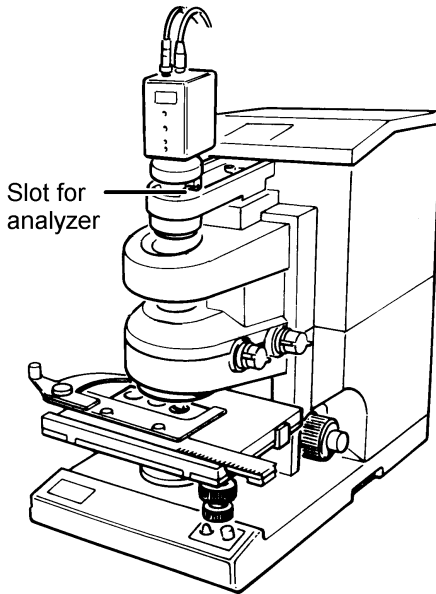

Figure 28 Analyzer Position
2. Insert the analyzer into the slot under the video camera (Figure 28).